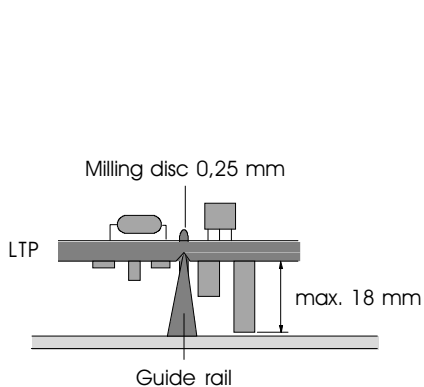

Figure 10
- Component height up to 18 mm (see page 7, figure 10).